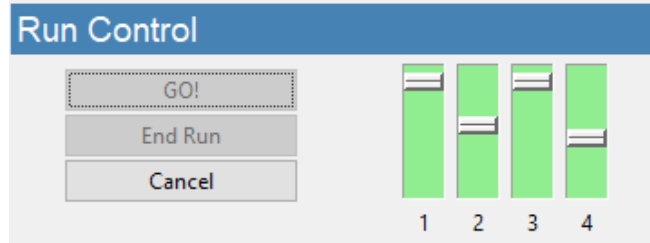

Figure 6. Run Control frame and fill monitors status.
- Press "GO!" to prime the cartridge and **start data acquisition automatically** (see Figure 6).
- The fill monitors are vertical sliders in the Cartridge Initialization frame that indicate the fill status in various parts of the cartridge (see Figure 6).
- After normal priming, the fill monitors should have approximately the pattern shown in Figure 6.